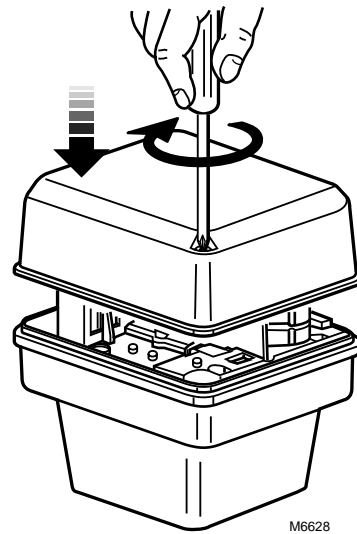

Fig. 14. Replacing actuator cover.
3. When wiring is complete, replace the cover on the actuator. See Fig. 14.